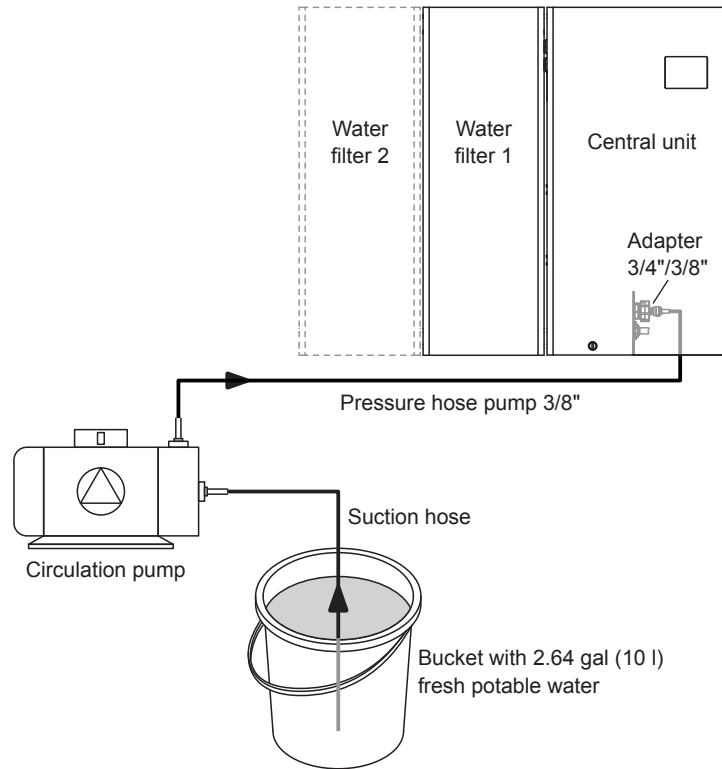

Fig. 51: Schematic diagram for the connection of the circulation pump for flushing
- Immerse the suction hose of the circulation pump (service accessory) into the bucket with the fresh potable water and connect the pressure hose to the supply connection of the central unit (see Fig. 51). Then start the circulation pump according to the instructions of the pump.